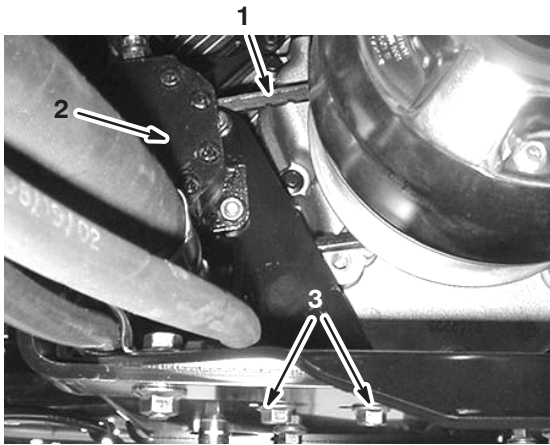

Figure 50
2. Loosen the steering pump mounting bolts (Fig. 50).